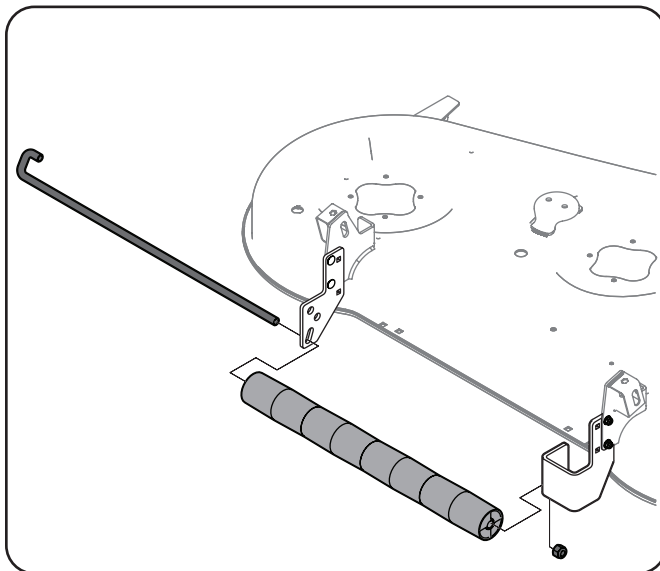

Figure 1-11
3. Make sure that the J-shaped end on the Roller Pin is secured in the mounting hole of the Left Roller Bracket (#6) and then secure the end on the Roller Pin with a ½ Lock Nut (#4). See Figure 1-11.